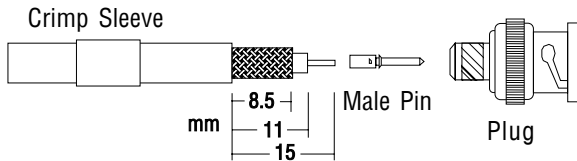

Figure 4: Antenna Connector Assembly
- 2 Terminate the free end of the cable with the BNC crimp plug supplied, as shown in Figure 4: